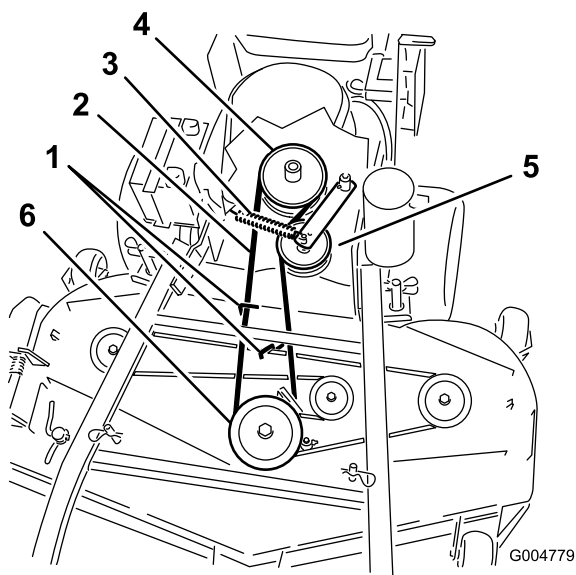
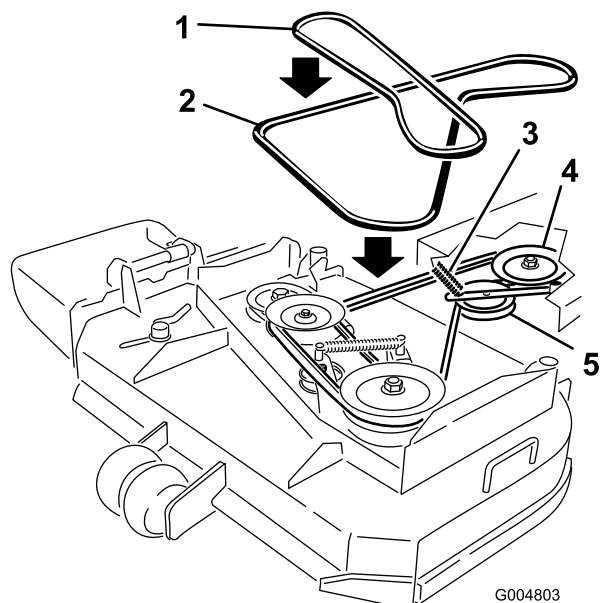

Figure 45
Figure 46
6. Roll the belt off of the center pulley on the mower deck (Figure 45). Refer to Figure 46 to roll the belt off left pulley for a 36 inch mower deck. Use caution when removing the belt as tension will increase because of the spring loaded idler pulley.
7. Remove the belt from the engine pulley and the spring loaded idler pulley (Figure 45). Refer to Figure 46 to remove the belt from the 36 inch mower deck pulleys.
8. Install the new belt onto the engine pulley and spring loaded idler pulley (Figure 45).
9. Roll the belt onto the center pulley on the mower deck (Figure 45). Use caution when install the belt as tension will increase because of the spring loaded idler pulley. Refer to Figure 46 to roll the new belt onto the left pulley for a 36 inch mower deck.
11. Adjust the belt guide an 1/8 inch (3 mm) from the belt for 40, 48 and 52 inch mower decks (Figure 45).